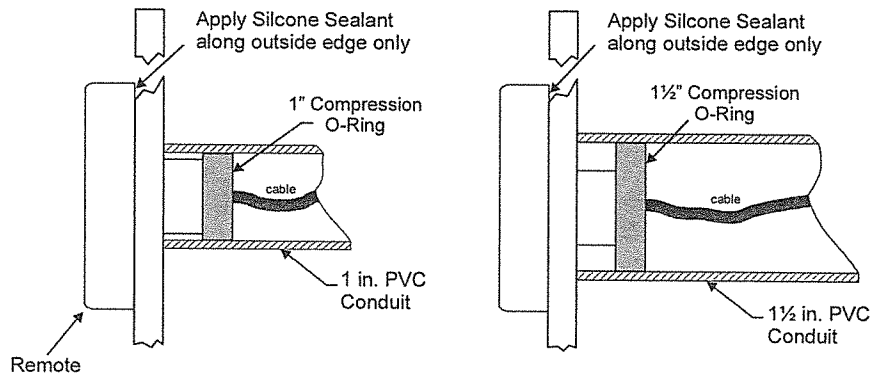

Fig. 2
5. Run a small bead of silicone sealant along the outside edge of the remote control. Attach the remote to the mounting surface by sliding the O-ring into the pipe and pushing against the surface. NOTE: Do NOT apply sealant to the compression O-ring or PVC pipe. See Fig. 2.